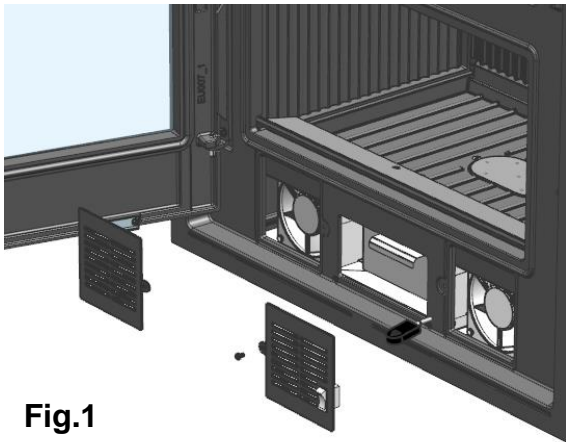

Fig.1
7. Loosen the front grille by loosening the fixing screw (Fig. 1).